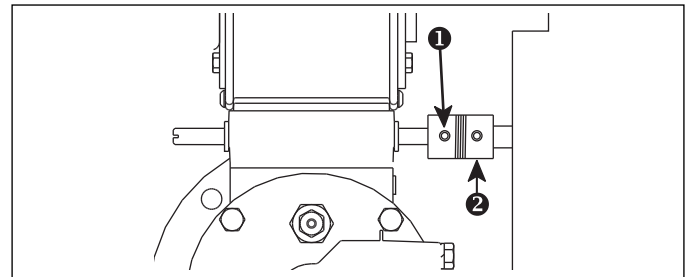

Figure 4.3. Actuator with Flexible Coupling
- a. For air control actuators that have a coupling with set screws, as shown in Figure 4.3, loosen the set screw ① on the burner side of the coupling ②.
- d. For air control actuators that have a coupling with set screws, as shown in Figure 4.3, hold the butterfly valve firmly in place and tighten the set screw ②.